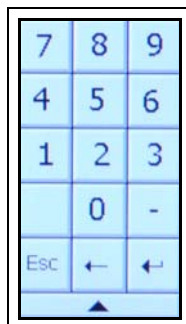

Figure 3N *Number Keypad*
2. In the “Modify Spout Positioning” screen select the spout that requires adjustment by touching the value pad next to the spout number balloon. A number keypad will display (See Figure 3N.)